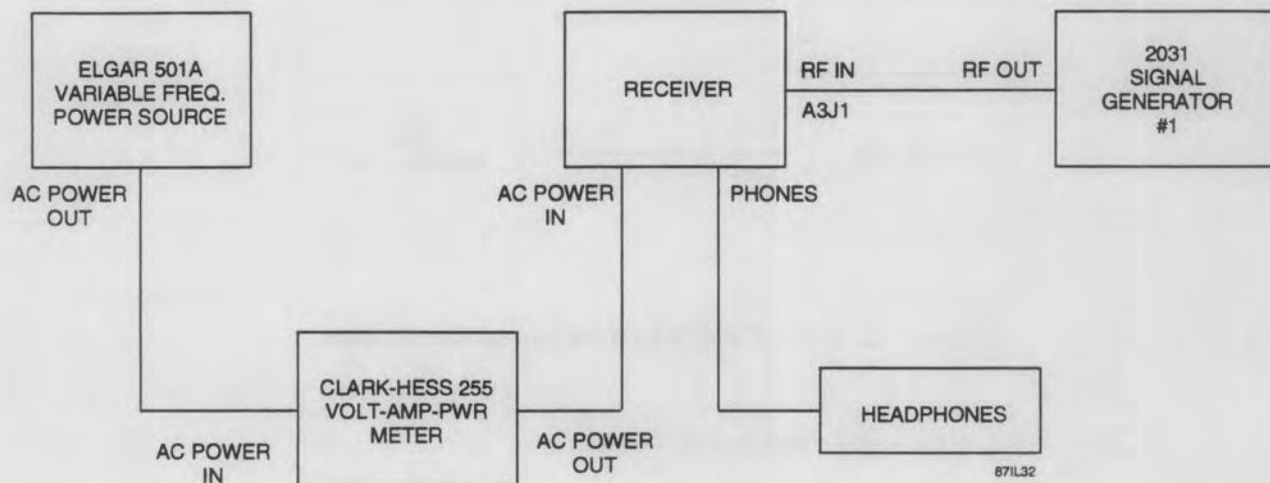

Figure 7-1. Power Consumption Performance Test Equipment Connection
1. Connect the HF-1000 Receiver and test equipment as illustrated in **Figure 7-1**.